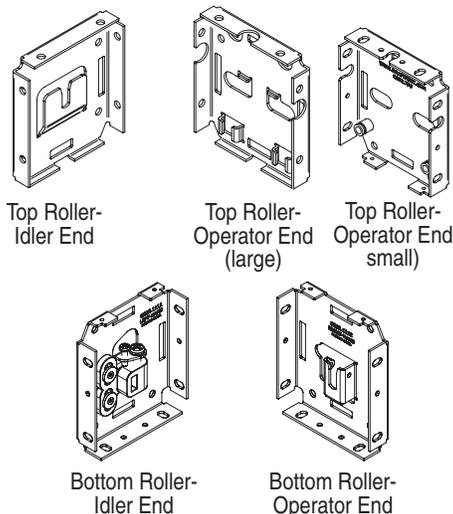

Figure 2
- ② Mark wall, jamb or ceiling for placement of mounting endcaps.
- ③ Drill small starter holes (if necessary) in mounting surface.
- ④ Mount endcaps using appropriate fasteners for surface (see Fig. 2 for types). **The installer is responsible for selecting mounting hardware appropriate for site conditions.**